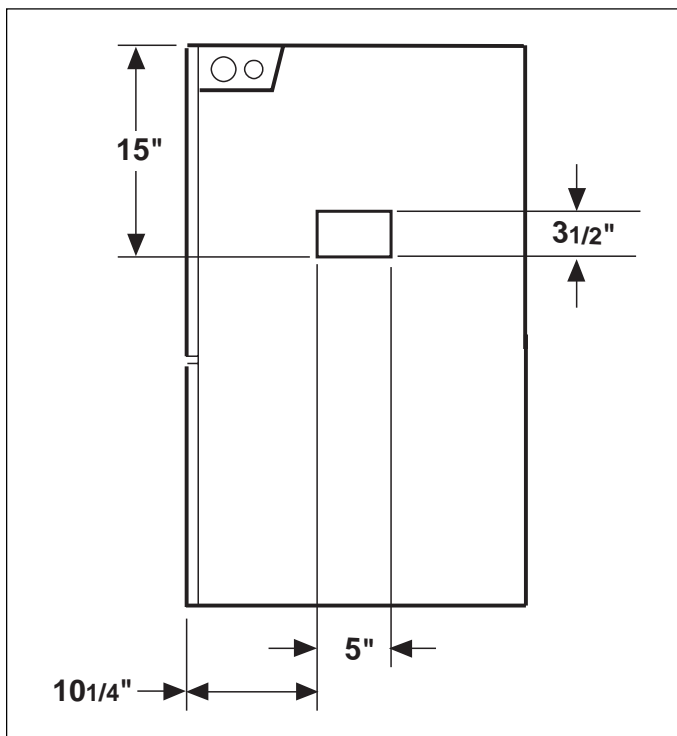

Figure 4. Common $3\frac{1}{2}$ x 5 Location for Upflow or Downflow Cabinet.
1. The duct adaptor can be attached to either side of the air handler in either the upflow or downflow configuration. If the air handler does not have the appropriate $3\frac{1}{2}$ " W x 5" L knockout in the side it must be added as shown in Figure 4 below. Use sheet metal snips to cut a $3\frac{1}{2}$ " W x 5" L opening in the side corresponding to the dimensions shown in Figure 4 below.